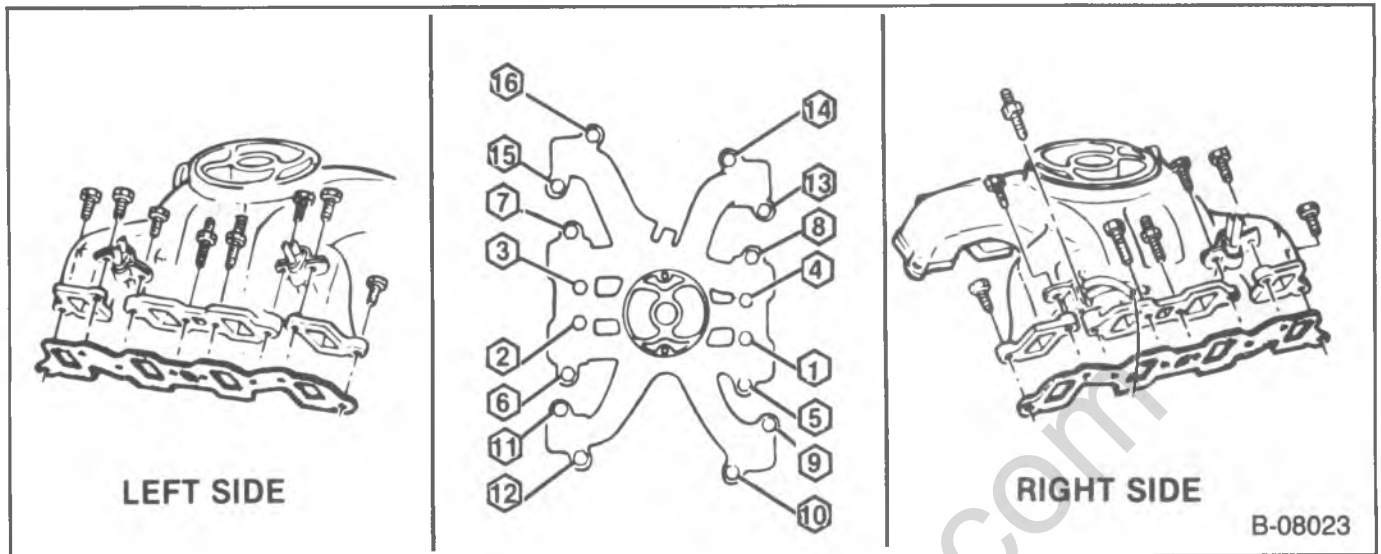

Figure 2—Intake Manifold
↔ Install or Connect (Figure 2)
- Intake manifold bolts to 42 N·m (32 ft. lbs.). Use the tightening sequence shown in figure 2.